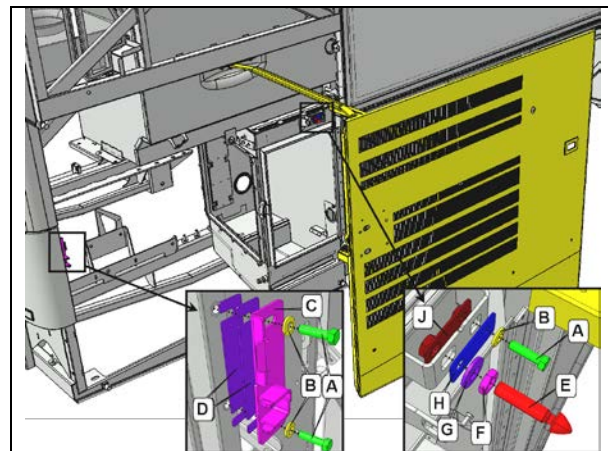

FIGURE 104: DOOR INSTALLATION – LATCH SYSTEM
1. To adjust the position, the door must be free to move without any restriction. For this reason, remove pin E and stripe plate C (FIGURE 104).